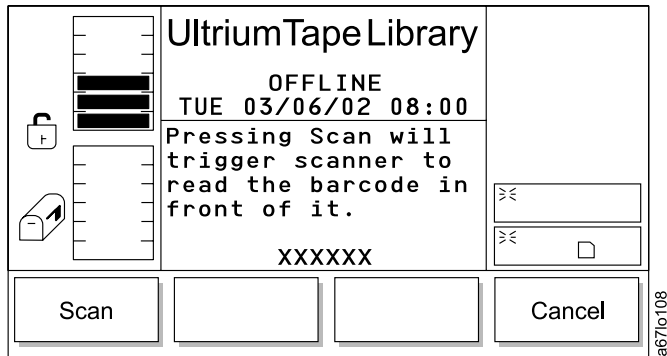

Figure 173. Bar Code Label Dialog
- If **Scan** is selected, the bar code label immediately in front of the scanner is read (see Figure 173 on page 140).